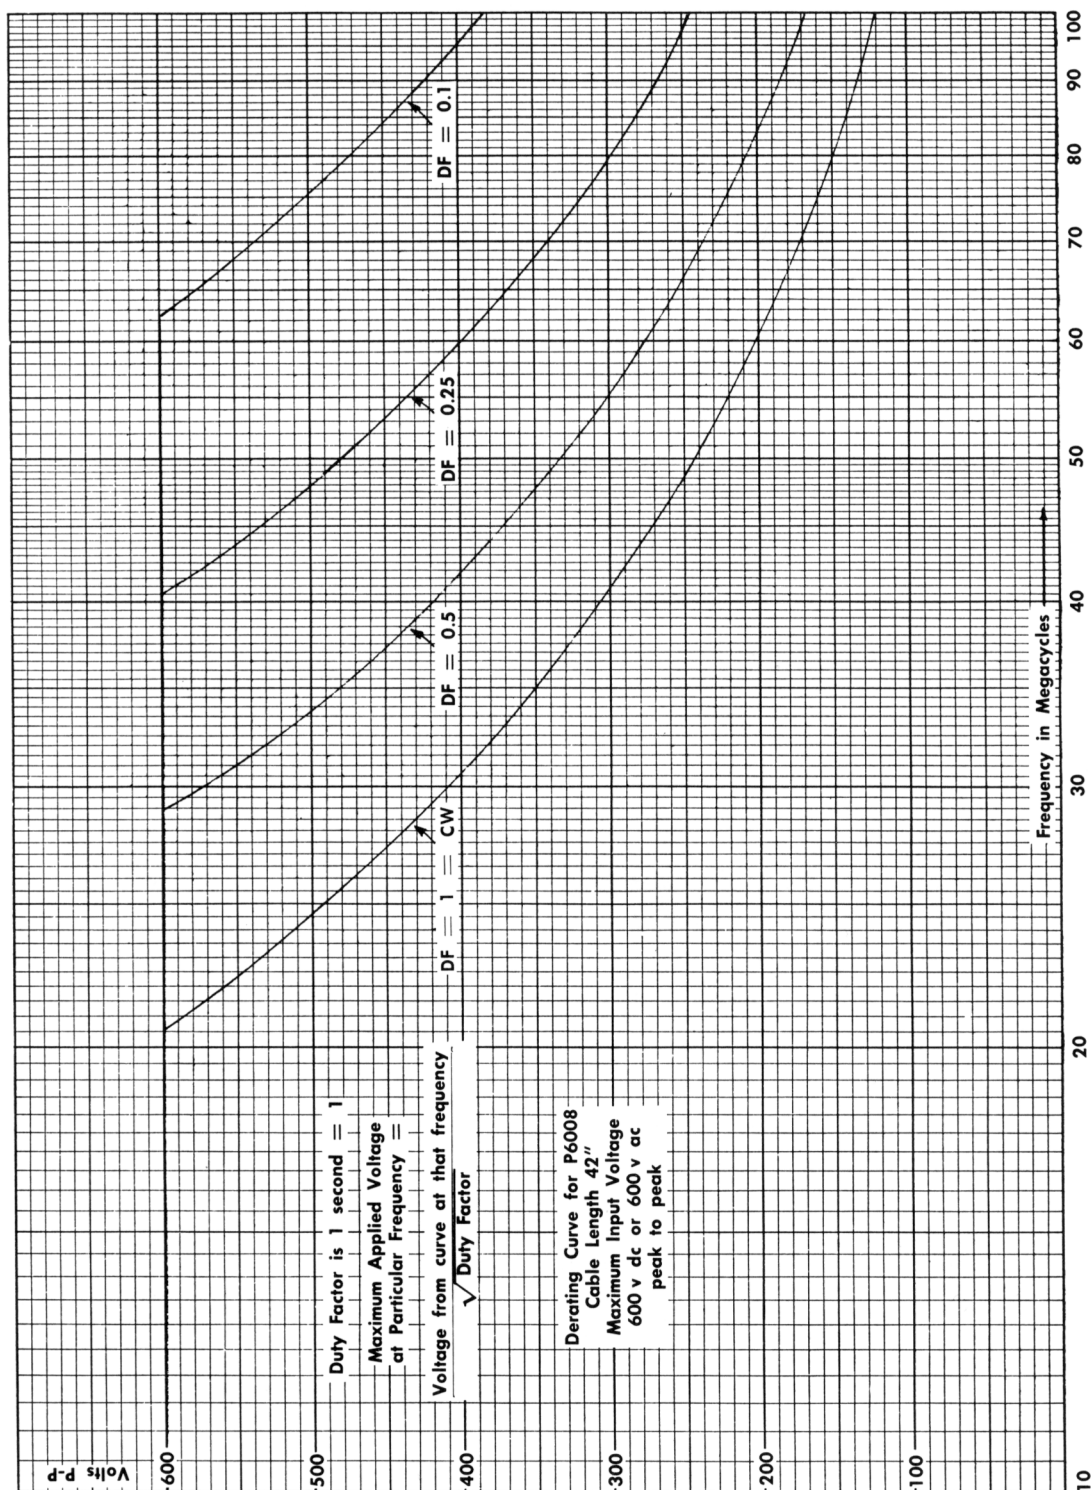

Fig. 2-4. Maximum Applied Voltage At Specific Duty Factors.
Maximum dc or ac peak-to-peak below 20 megacycles: 600 volts. Above 20 megacycles, maximum voltage must be derated according to frequency duty factor. See the curves in Fig. 2-4.
3. Voltage Rating—Fig. 2-4 is a graph of the maximum voltage rating at various frequencies with various duty factors. At higher frequencies, the maximum voltage decreases because charging currents in the probe cable, which charge the input capacitance of the plug-in, increase until the cable overheats. When computing duty factor, the maximum "on" time is one second. If "on" time and "off" time are less than one second, then duty factor: